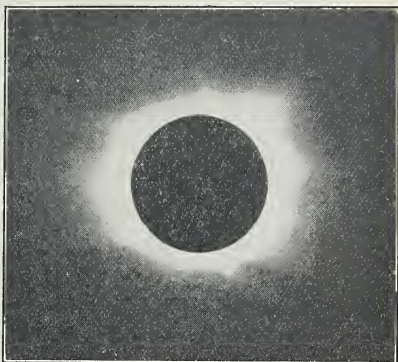

Fig. 554. A total eclipse of the sun. The bright glow is the corona, which extends millions of miles but is seen for only the few minutes of total eclipse.
*of the sun* (see Experiment 175) (Figs. 554 and 560). At other times it moves into the earth's shadow, and we have an *eclipse of the moon*.